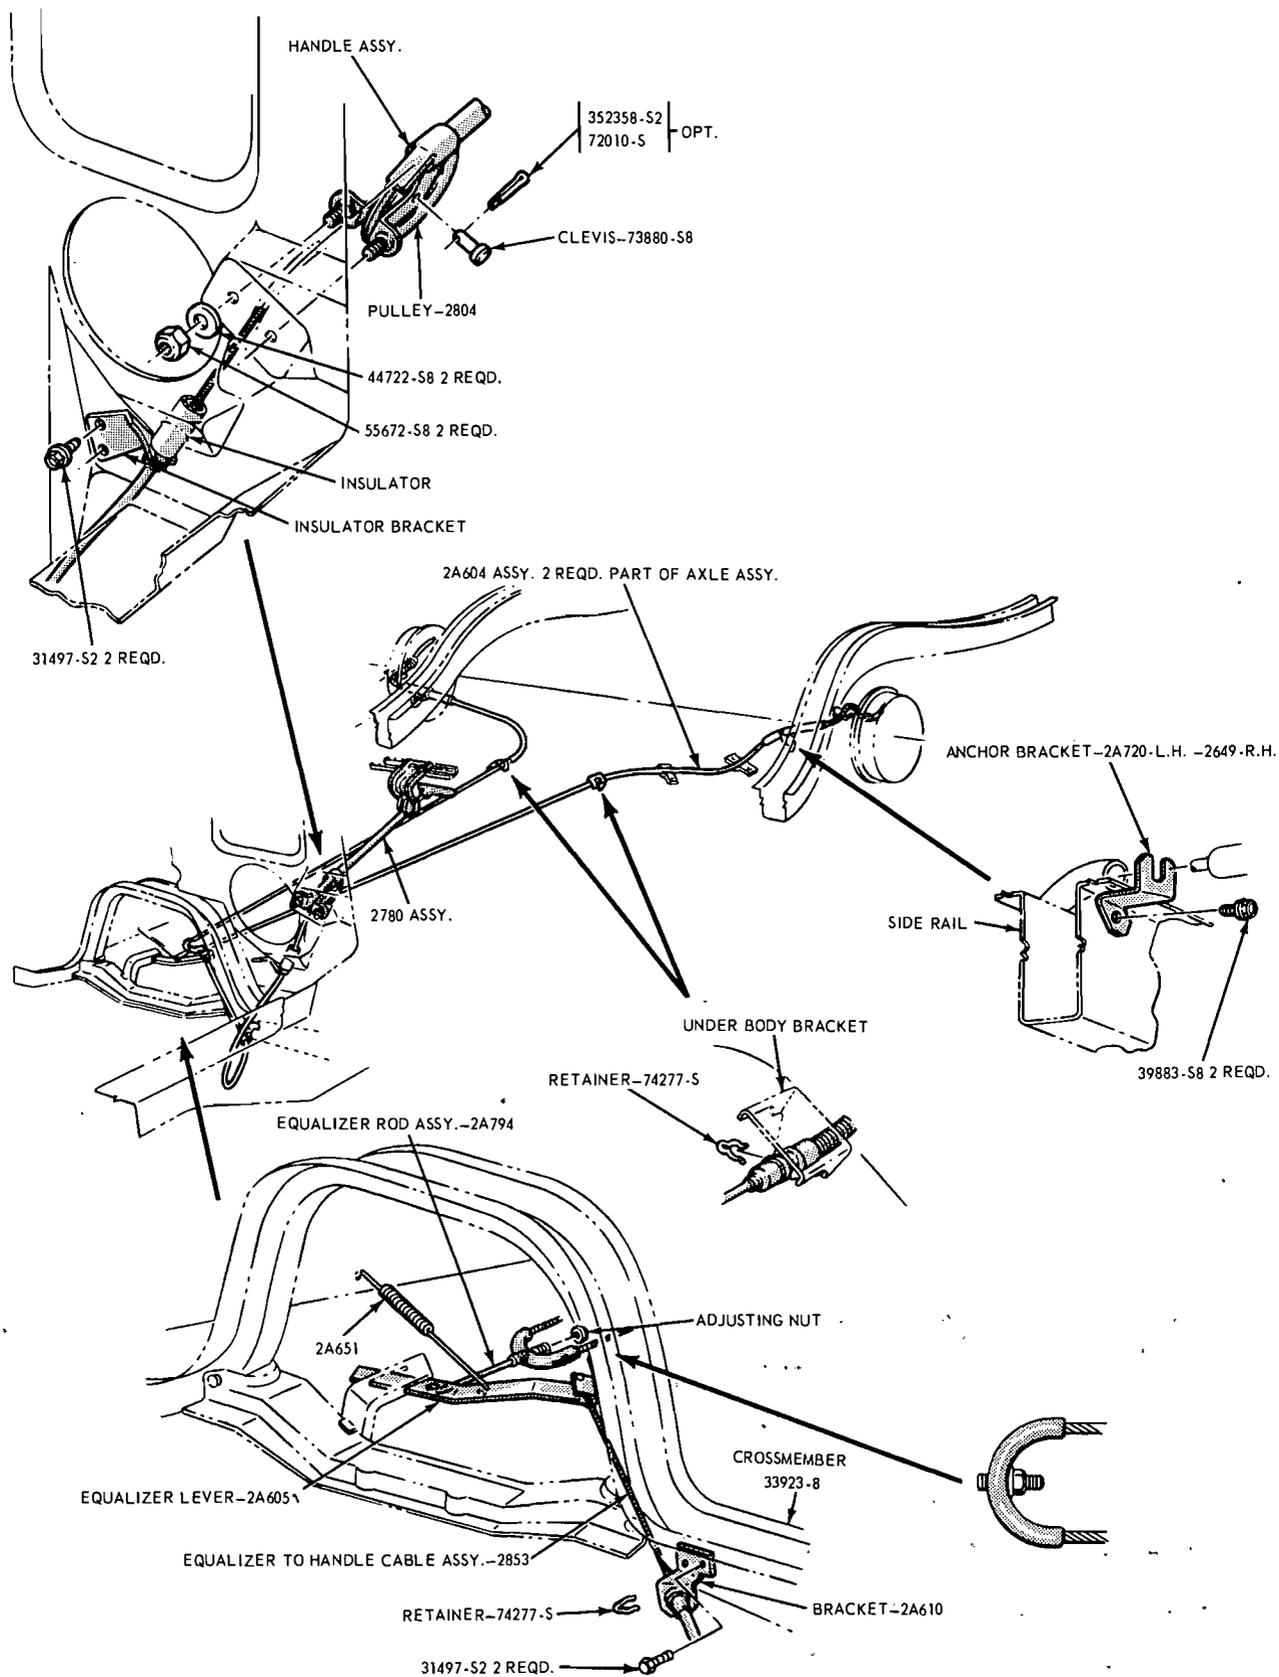

FIG. 28—Parking Brake Linkage—Mustang
1. Remove the two screws that hold the handle bracket on the instrument panel. Remove the attaching screws and the insulator bracket (Fig. 28).
4. Install the insulator bracket with the attaching screws (Fig. 28).
1. Remove the attaching screws and insulator-bracket from the dash panel (Fig. 28).
1. Connect the cable lower ball to the equalizer lever (Fig. 28).
1. Remove the adjusting lock nut and cable yoke from the equalizer rod (Fig. 28), along with the rear cable assembly.